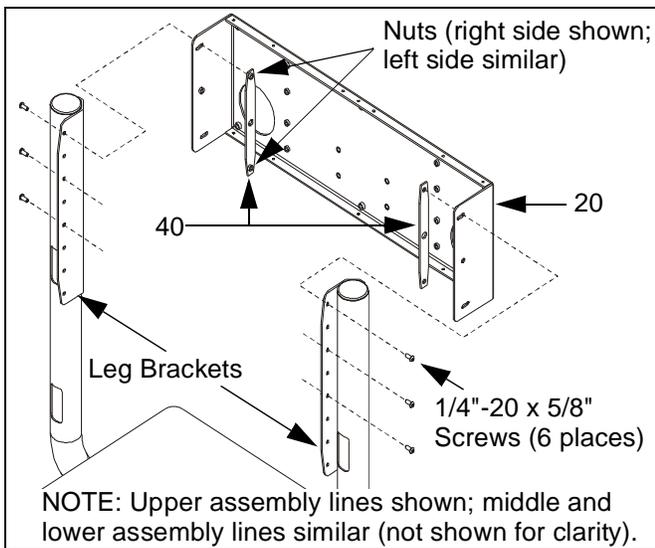

Figure 4: Install Dual Mount Head
1. Determine desired height for head (20) keeping in mind display size and viewing requirements.
2. Using hex key (60), install six retained 1/4"-20 x 5/8" button head cap screws through selected fastener holes in leg brackets, through head (20), into spreaders (40) (See Figure 4). Tighten securely. Ensure the following:
- Head (10) is facing *front* of cart.
- Spreaders (40) are oriented so that nuts face *inside* of head (10).